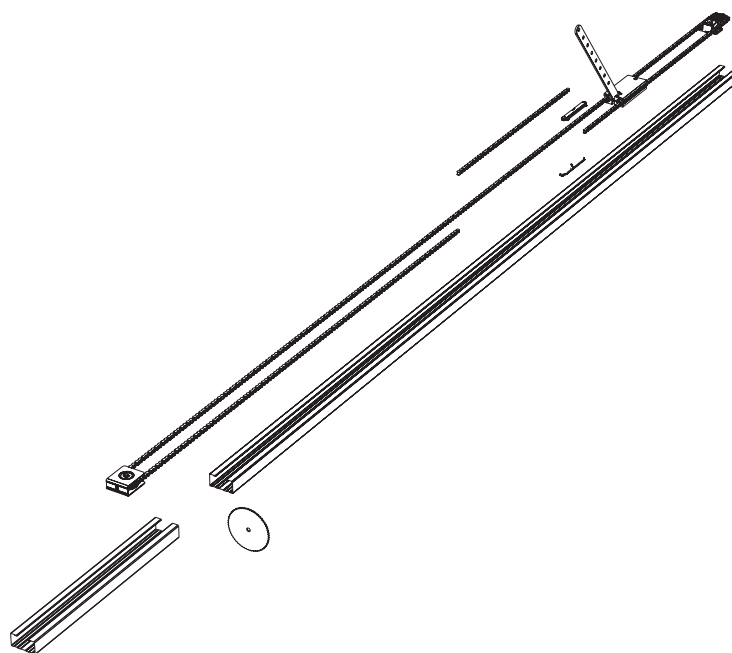

Fig. 5
6. Cut the guide and shorten the chain to the required dimensions (fig. 5).